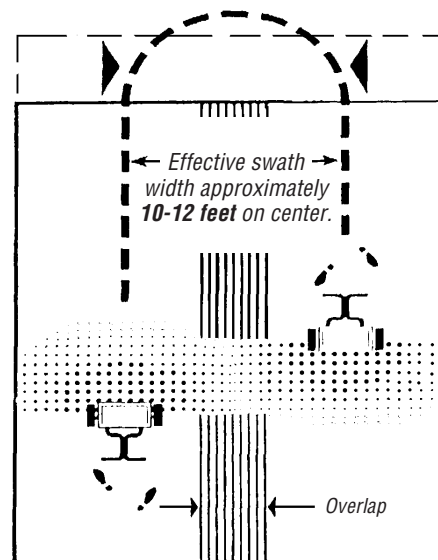

Figure 10
6. Where appropriate, apply header strips around the area to be treated, then push the spreader at a walking speed about 2 1/2 mph (18 feet in five seconds). To decrease the spread width in confined areas, reduce walking speed. Space your trips across the area as shown in Figure 10.